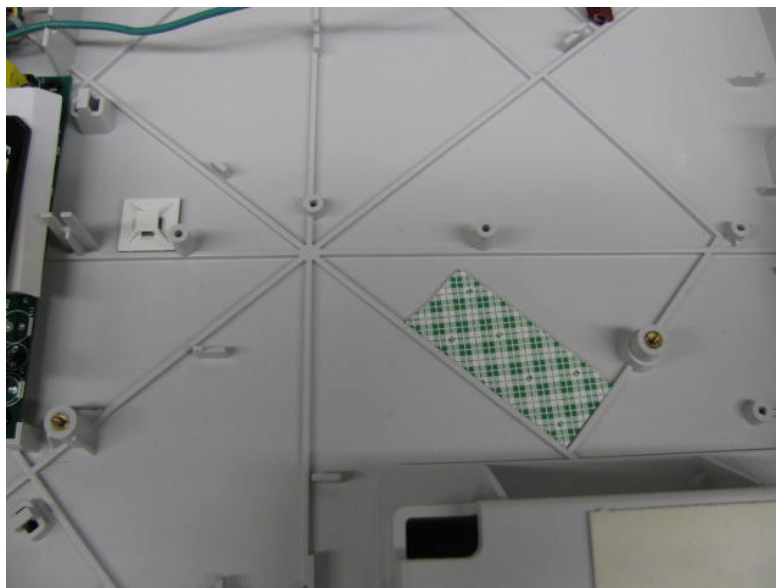

Figure 2
2. Install approximately 2" of foam tape (703772) into housing located as shown. Justify the tape to the ribs as pictured (Figure 2).